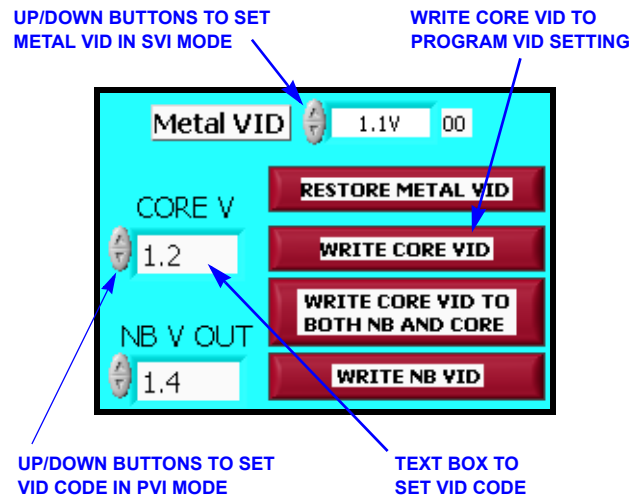

FIGURE 30. SETTING INITIAL VID CODES FOR POWER-UP
assume that the VFIXEN switch is toggled to LOW). See Figure 30.
4. To set the VID code in PVI mode, either toggle the UP or DOWN buttons for "CORE V" or type the desired output voltage level in the "CORE V" text box and then click on the "WRITE CORE VID" button. See Figure 30.